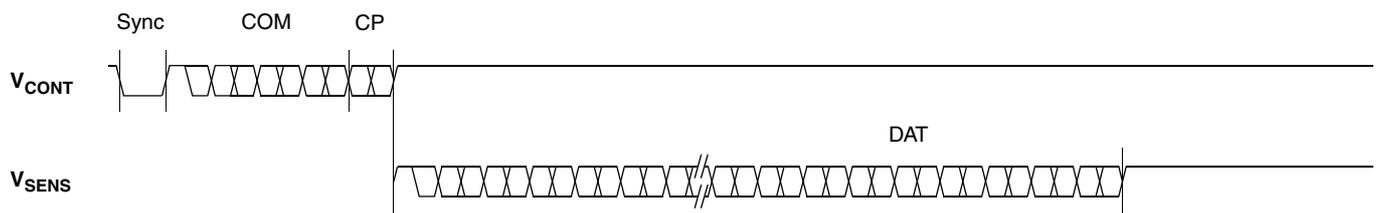

Fig. 4-3: Telegram for coding a READ command
- Read the sensor (see Fig. 4-3)